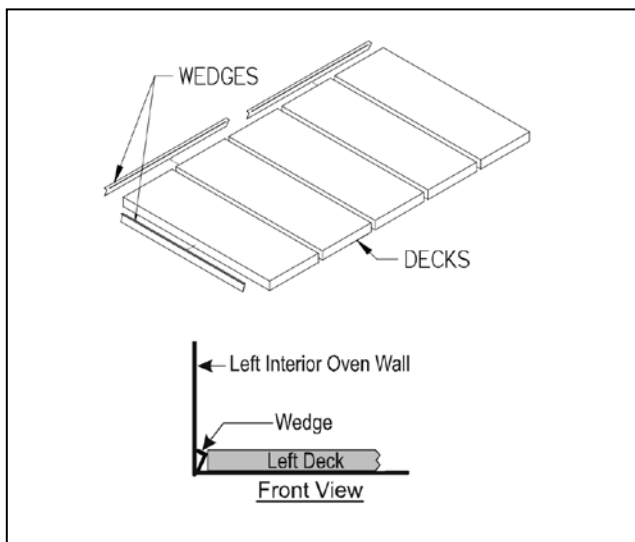

Figure 8
- (1) KEEP THE OVEN DOOR CLOSED DURING THE ENTIRE PRE-DRYING PROCESS.
- (2) Let the baking stones adjust to room temperature before beginning.
- (3) Preheat the stones with the pilot burner on for 1 hour.
- (4) Increase the temperature to below 300°F to maintain a flame height of less than a 1/4". Maintain this setting for 3 hours
- (5) After 3 hours increase temperature to 300°F for 1 hour, then 400°F for 1 hour, and then 500°F for 1 hour.
- (6) DO NOT ALTER THIS PROCESS, failure to properly pre dry stones can cause warping, cracking, or shattering with explosive force.
- (g) Use wedges in the back and on the sides of the deck if the slabs are loose. The five decks should be tight against each other with no gap between them (See Fig. 8).